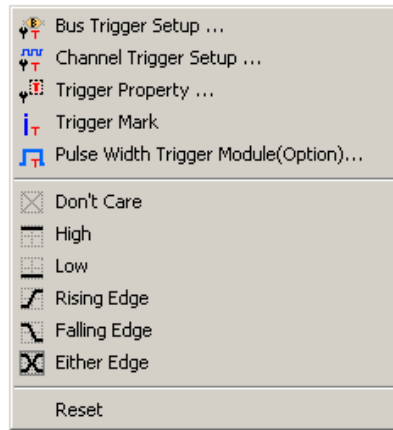

Fig 4-17 -Trigger Menu
Step1. Click icon or click Bus Trigger Setup on the Trigger menu to open the Bus Trigger dialog box. The Trigger menu is shown as Fig 4-17.